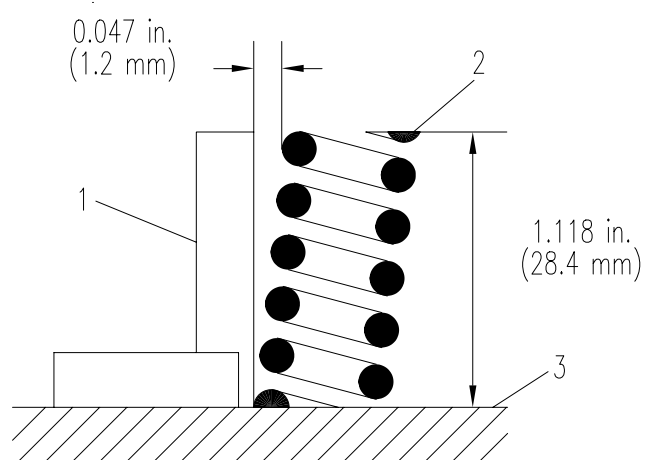

Figure 6-6. Valve Spring
- (1) Refer to Figure 6-6 and use outside micrometer caliper to measure length of valve spring. If length is less than 1.118 in. (28.4 mm), replace valve spring.
- (2) Place valve spring on a surface plate and place a square (1) on the side of valve spring (2).
- (3) Rotate valve spring to ensure that entire valve spring is flush with the square (1).
- (4) If valve spring is not flush with the square, refer to Figure 6-6 and measure the distance from edge of spring and square (1). If length exceeds 0.047 in. (1.2 mm), replace valve spring.
- (5) Check the entire surface of valve spring for scratches. If any scratches exist, replace valve spring.